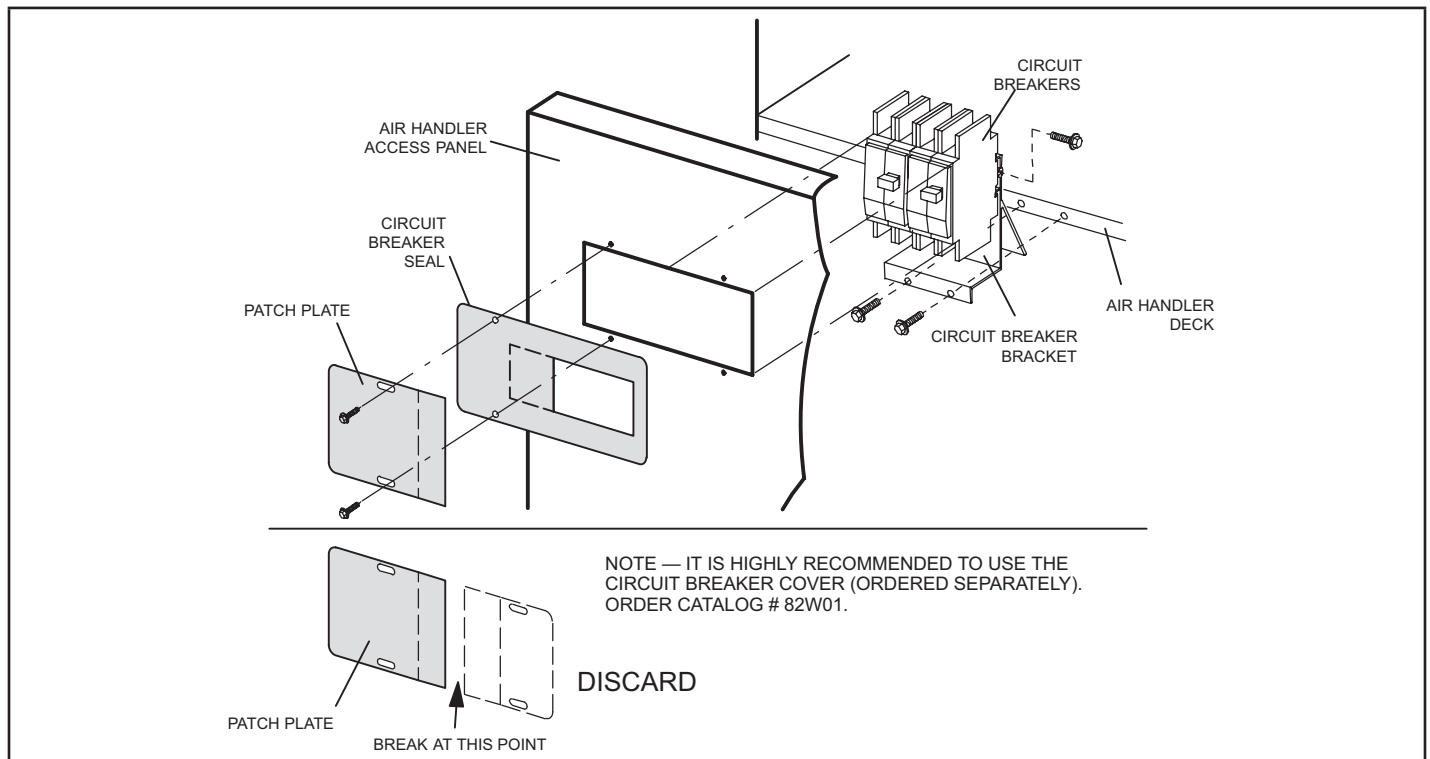

FIGURE 4. Circuit Breaker Seal and Patch Plate Installation
- 3 - Remove the circuit breaker patch plate from the air handler access panel. See figure 4.